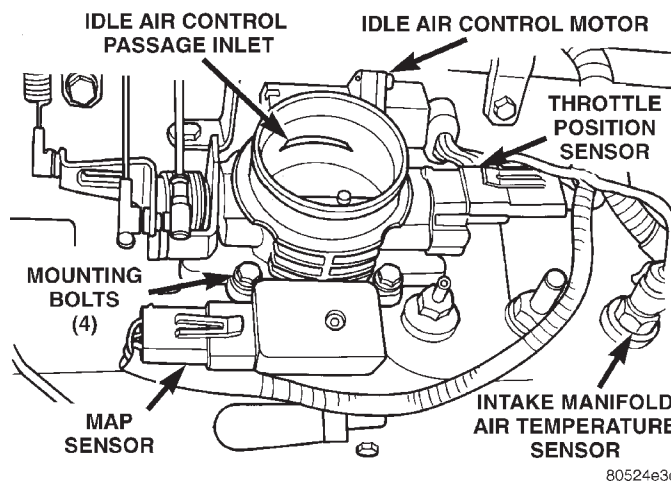
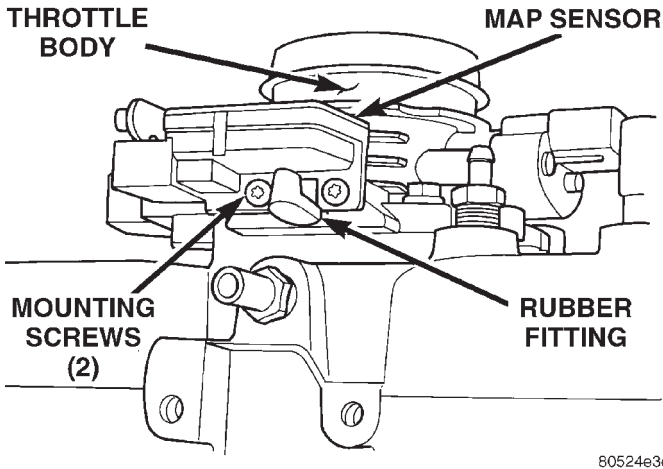

Fig. 37 Sensor Locations—4.0L Engine
Fig. 38 Rubber L-Shaped Fitting—MAP Sensor-to-Throttle Body
(13) Inspect the air cleaner inlet and air cleaner element for dirt or restrictions.
(14) Inspect radiator grille area, radiator fins and air conditioning condenser for restrictions.
(15) Verify that the intake manifold air temperature sensor wire connector is firmly connected to harness connector (Fig. 37).
(16) Verify that MAP sensor electrical connector is firmly connected to MAP sensor (Fig. 37). Also verify that rubber L-shaped fitting from MAP sensor to the throttle body is firmly connected (Fig. 38).
(17) Verify that fuel injector wire harness connectors are firmly connected to injectors in the correct order. Each harness connector is numerically tagged with the injector number (INJ 1, INJ 2 etc.) of its corresponding fuel injector and cylinder number.
(18) Verify harness connectors are firmly connected to idle air control (IAC) motor and throttle position sensor (TPS) (Fig. 37).